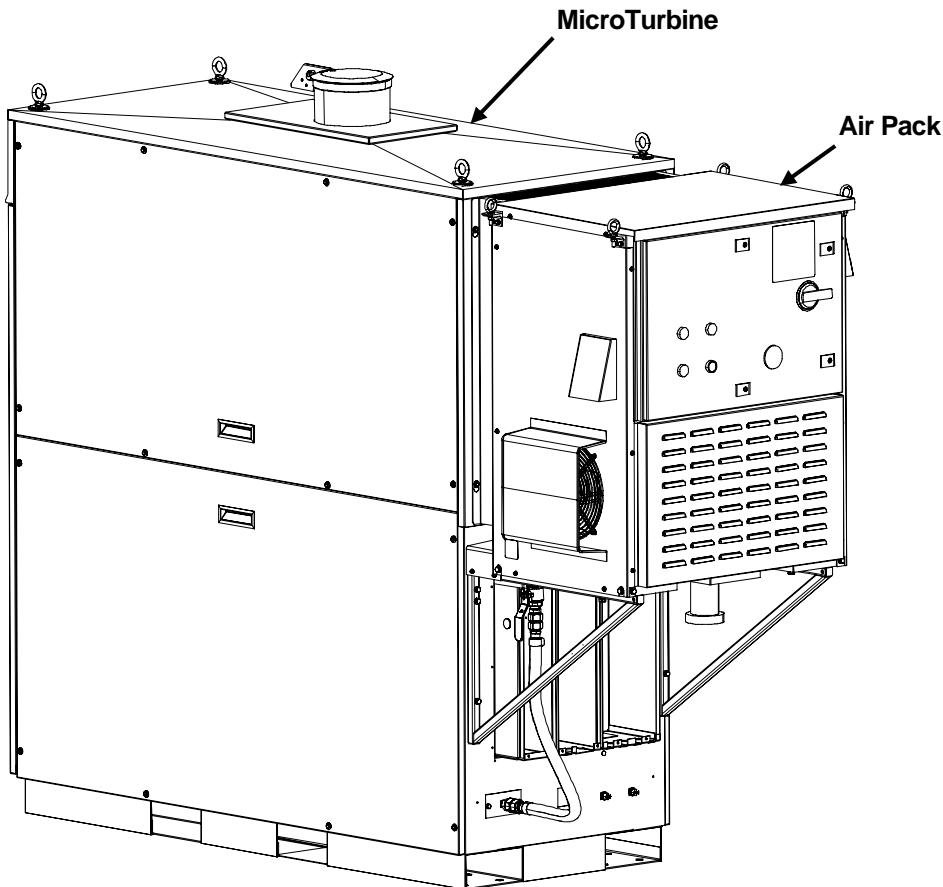

Figure 1. MicroTurbine with Air Pack
The Air Pack is installed on the C65 Liquid Fuel (LF) model MicroTurbine (MT). It is mounted to the back of the C65 enclosure, though it is not a part of the MicroTurbine itself. The Air Pack provides air to the turbine during start and low power operations. Figure 1 shows a MicroTurbine installation with the Air Pack.